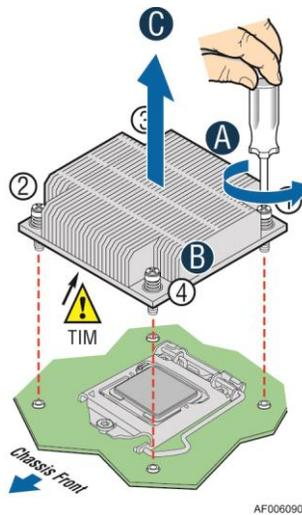

Figure 29. Removing Processor Heatsink
1. Remove the processor heatsink; see *Figure 29*.